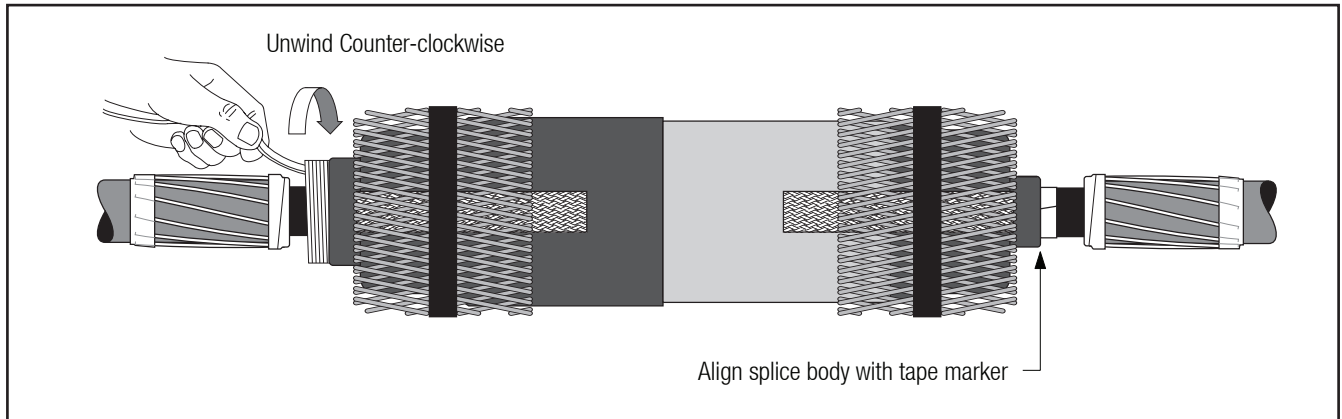

Figure 15
- 4.5 Position the splice body over connector area, aligning end of the splice body (not the core) at the center of the tape marker. **Slowly** start to remove the splice core by pulling and unwinding the loose core end counterclockwise, allowing only ¼" (6 mm) of the splice to shrink onto the tape marker. Carefully slide the splice body off the tape marker by pulling and twisting until the entire tape marker is exposed. Continue removing the core to complete the splice body installation (*Figure 15*).